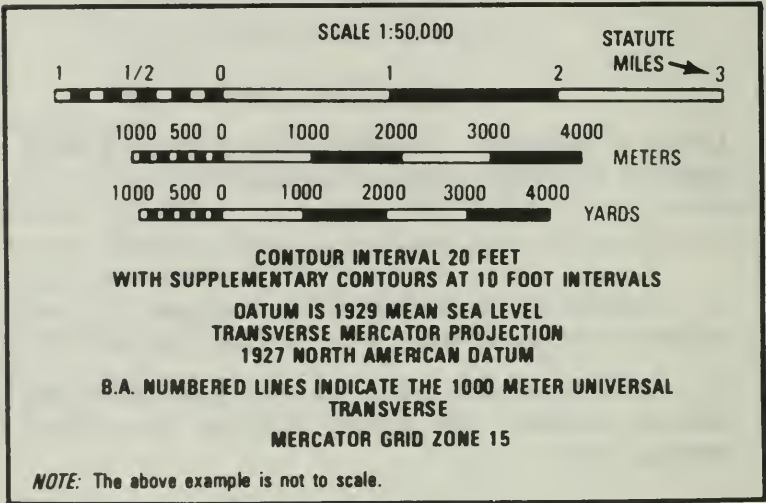

Figure 45. Bar scale.
1. To change map distance to miles, meters, or yards, use the bar scales at the bottom of the map (Figure 45).